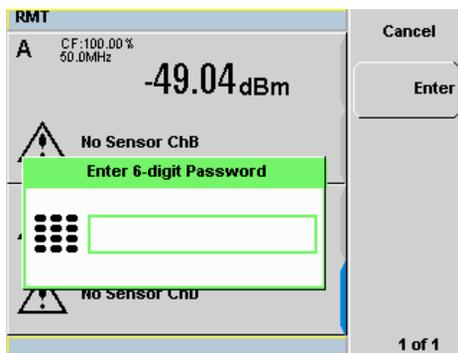

Figure 2-43 Enter 6-digit Password pop-up
- 3 Press **Secure Blank**. The Enter 6-digit Password pop-up is displayed. You are to enter a 6-digit password upon activating the secure blank feature (see Figure 2-43).
- 5 A warning message pop-up will be displayed if the entered password is not 6-digits (see Figure 2-45). This warning will appear for two seconds before the Enter 6-digit Password pop-up (Figure 2-43) is displayed again.